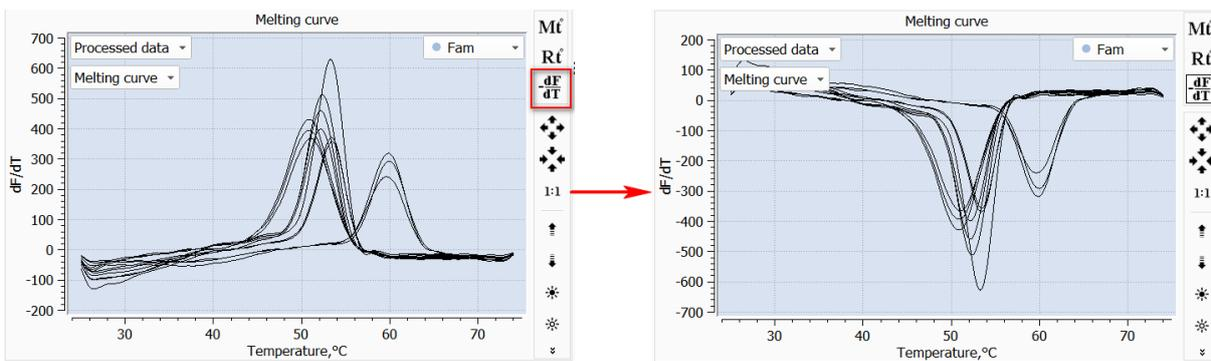

Figure 71 – An example of using the mode of melting curves inversion
- **- (dF)/(dT)** [-dF/dT] – invert the melting curves (fig. 71).